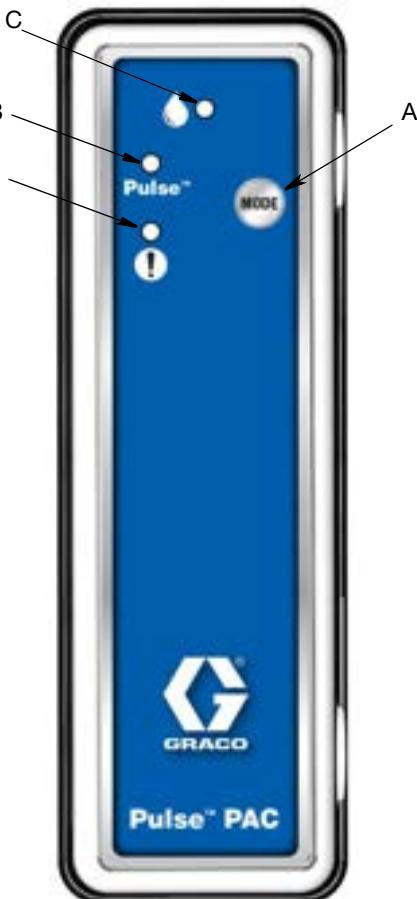

FIG. 13
3. Connect power to the PAC. (Red light (D) turns on.) Wait 30 seconds. (Blue light (B) turns on.) (FIG. 13)
4. On the PAC, press and hold the Mode button (A) for 5 seconds (FIG. 13). (Green light (C) turns on. Blue light (B) and Red light (D) turn off.)
5. Press and hold the Mode button (A) again for 5 seconds, then release (FIG. 13). (Green light (C) stays on. Blue light (B) and Red light (D) turn on.)
6. Wait 5 to 10 seconds. (Green light (C) turns off. Blue light (B) starts flashing. Red light (D) stays on.)
7. When the Blue light (B) stops flashing and turns solid blue, the PAC registration sequence is complete (1 to 3 minutes) (FIG. 13). (Red light (D) stays on.)
9. Wait 1 to 3 minutes for the Red light (D) to turn off. PAC is now configured.
Press and hold MODE button (A) for 5 seconds (FIG. 13) to select Pulse or Work Off Line mode.